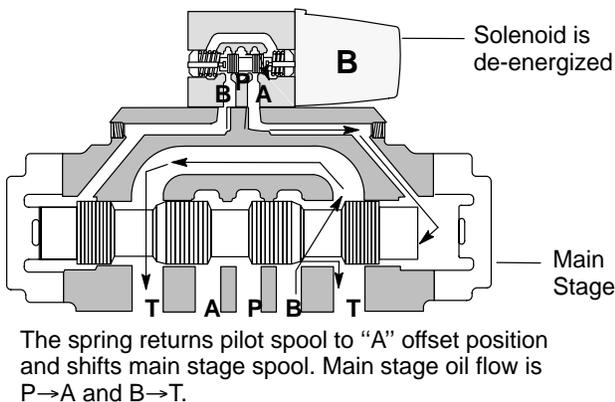

Figure 5. Spring Offset "A" Model
3. **Spring Offset:** Single stage spring offset models use one spring to return the spool to an offset position. In two-stage models, the spring and washer is removed from the main stage and offset action is obtained from the pilot valve. Offset pilots have a solenoid removed from the spring end of the valve. Spring offset pilots have a solenoid removed from the spring end of the valve. Spring offset pilots control the main stage when the solenoid is de-energized, through spring action, so long as pilot pressure is available. Spring offset valves have the letter 'A' stamped into the nameplate. Figure 5 illustrates an offset two-stage valve.